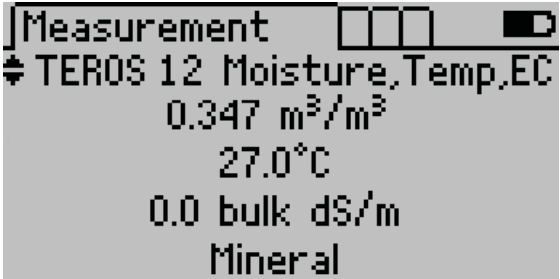

Figure 4 Measurement screen with the desired sensor
- 2. Use **UP** and **DOWN** to scroll through the sensor list until the correct sensor type appears in the Measurement tab (Figure 4).